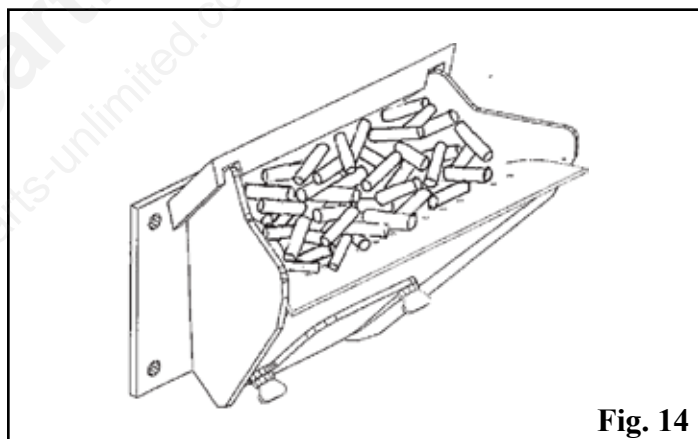

Fig. 14
8. **Fill burnpot with pellets** as shown. See Fig. 14. **Only fill level with the front edge.**